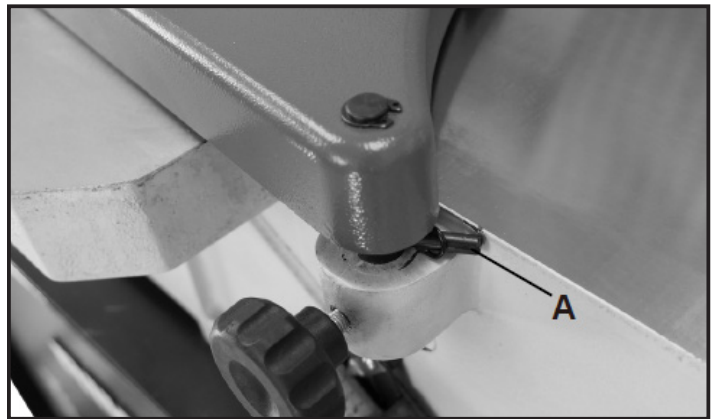

FIG.5.6
- Turn spring pin (A) approximately one-half revolution clockwise and hold.
- Insert guard post into hole in table. Make sure spring pin rests and places pressure against the table casting. FIG. 5.6.